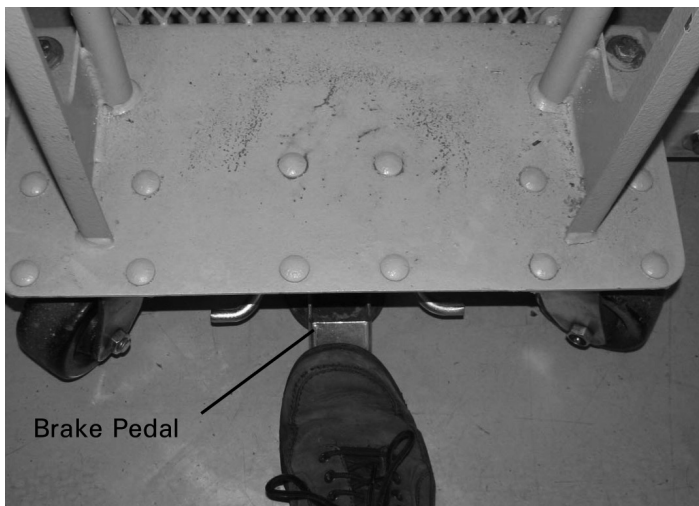

Figure 25. Break Pedal for Locking the Lifter.
1. Lock the lifter in place by stepping down on the lifter brake pedal (see Figure 25).
4. Lock the lifter in place by stepping down on the lifter brake pedal (see Figure 25).
5. Lock the lifter in place by stepping down on the lifter brake pedal (Figure 25).